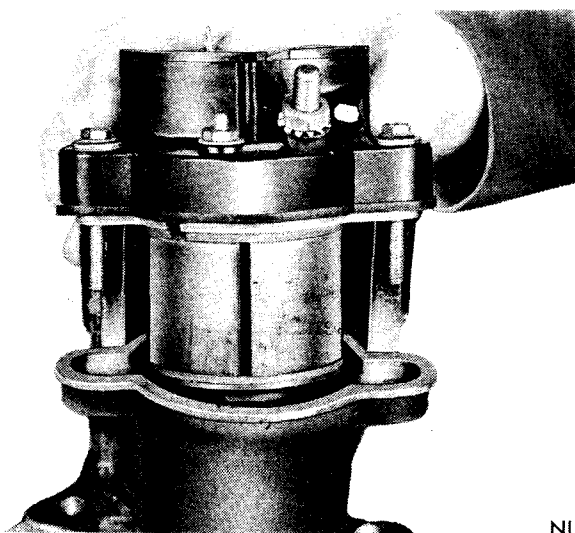

Fig. 29—Installing Solenoid and Brush Plate Assembly
- (14) Install brush holder to solenoid attaching screws.
- (15) Carefully enter solenoid coil and brush plate assembly into bore of gear housing and position brush plate assembly into starter gear housing (Fig. 29) and install housing attaching nuts. Tighten securely.